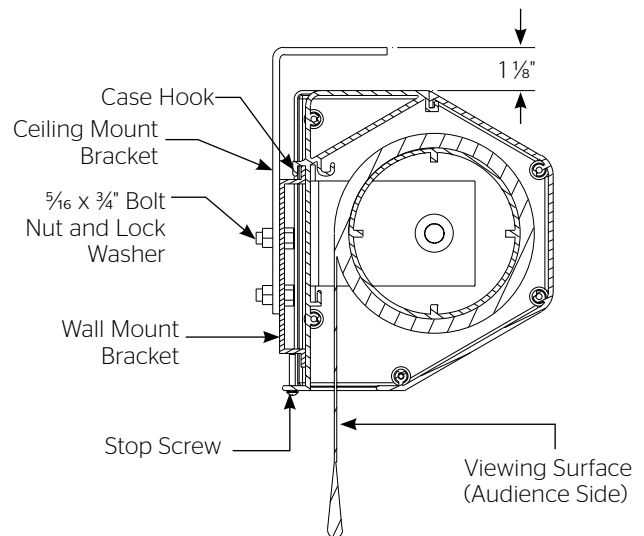

Figure 2
4. Mount the screen on the wall bracket as shown in figure 2. Be sure the case is fully seated on the bracket. Tighten the stop screws against the wall bracket.